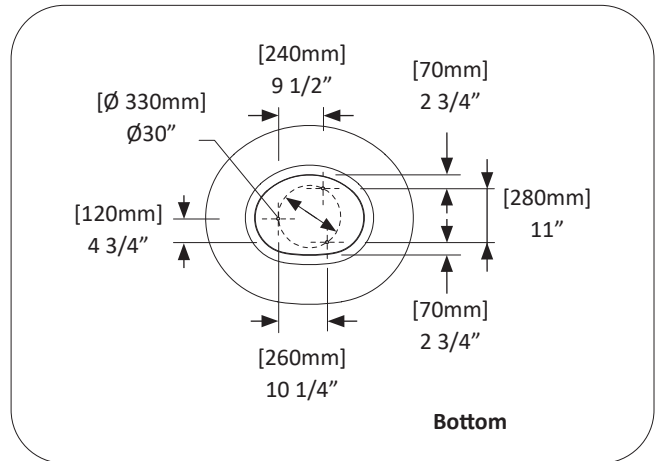

Fig.3 - Hole locations
4. Drill holes according to Fig. 3.